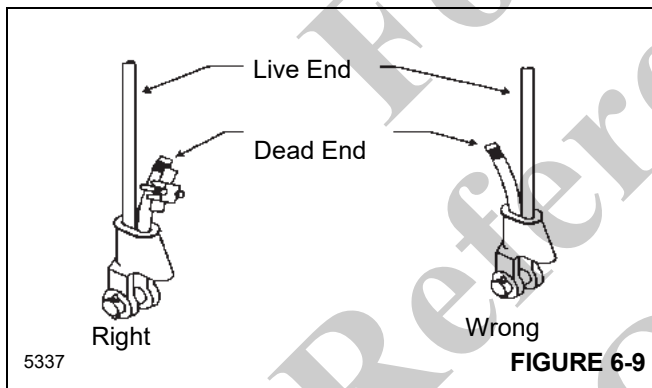

FIGURE 6-9
3. Make sure the live-loaded side (Figure 6-9) of the rope is directly in-line with the ears of the socket and the direction of pull to which the rope will be subjected. If the rope is loaded into the socket incorrectly, under a load the rope will bend as it leaves the socket, and the edge of the socket will wear into the rope causing damage to the rope and eventual failure.
4. Insert wire rope end in socket, form a loop in the rope, and route the rope back through the socket allowing the "dead" end (Figure 6-9) to protrude from the socket. Make sure the dead end of the rope is long enough to apply end treatment to the dead end after the wedge has been seated. See below for minimum length of dead end.